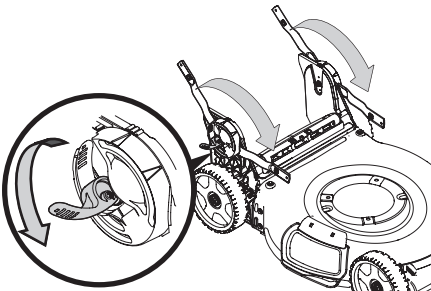

Figure 7
- Unlock the two handle release levers. See inset, Figure 7.